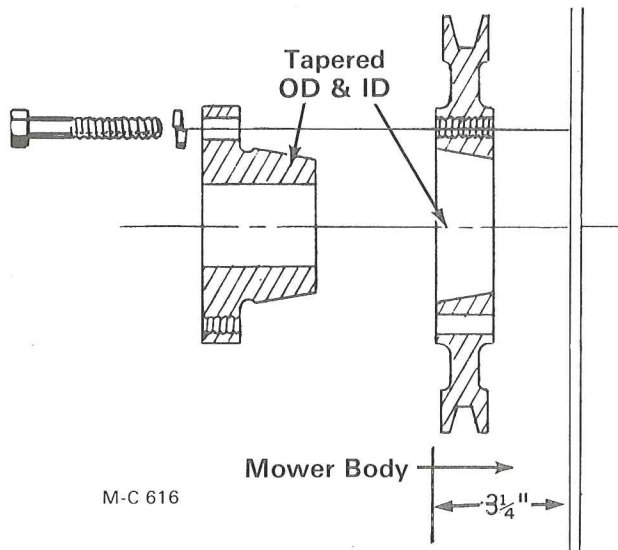

Figure 14
1. Adjust the pulley 3/4" from the rotor body. (See Figure 14.) Place a straight edge across the faces of the rotor pulley and drive pulley. Adjust the rotor pulley in line with the drive pulley, as required.
5. Place the bushing into the pulley from the front so that the bushing flange is to the outside. (See Figure 14.) The bushing and the bore of the pulley are tapered. Be sure to install the bushing into the large ID of the pulley tapered bore. If the bushing is installed into the small ID of the pulley, the pulley hub will crack when the mounting capscrews are tightened.